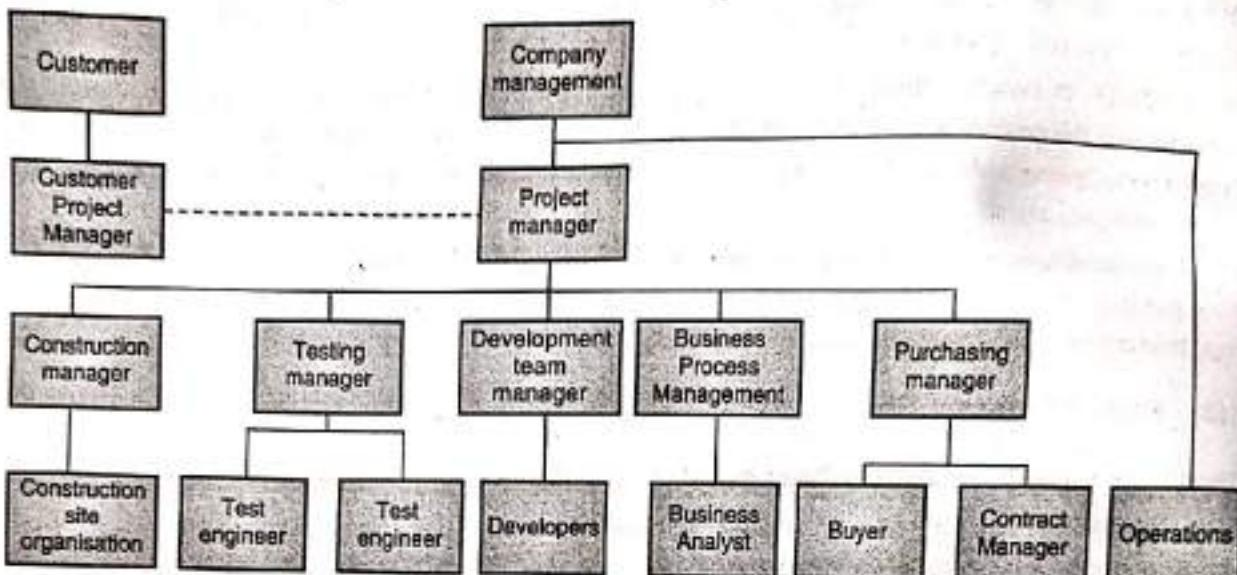

Fig. 2.9.1 : Project Organization Structure
- An example project organization structure is shown Fig. 2.9.1. The Project Manager heads the team with a direct reporting line to senior management.